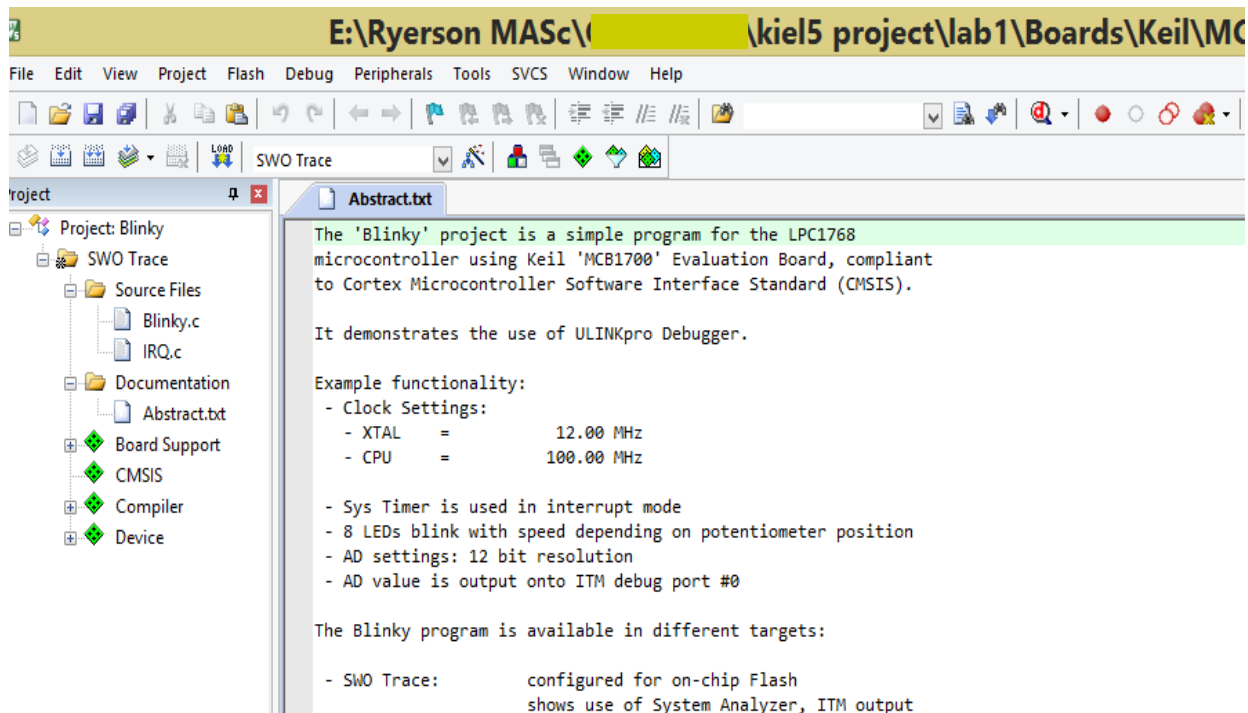

Figure 13: Copy Blinky to Lab1 folder
4. Create New Directory for EE8205 Labs and a subfolder for Lab1. Copy to that folder as shown in Figure 13.